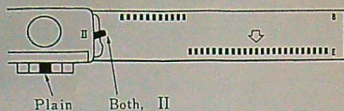

Fig. 58
(See Fig. 58)
- 3) Pass the yarn under the stem of the first needle which were not knitted. (See Fig. 58)